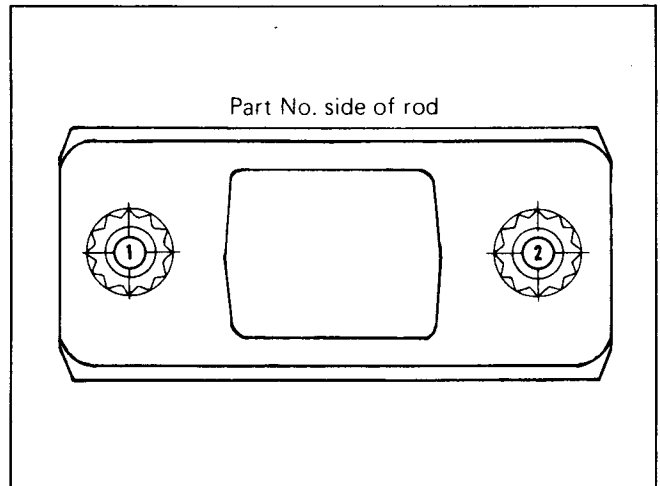

Fig. 1-11, (N114222) Connecting rod torquing sequence
2. Assemble cap to rod and alternately tighten capscrews or nuts to prescribed torque as described in Table 1-1 (19). See Fig. 1-11 for sequence.